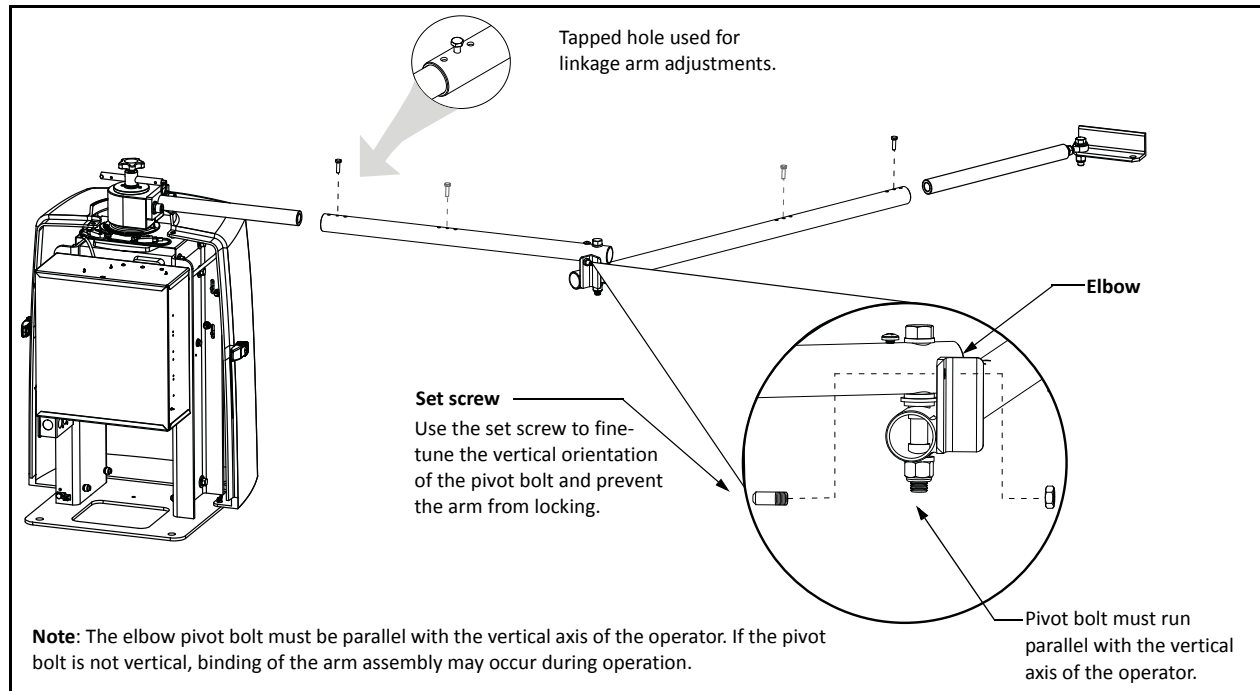
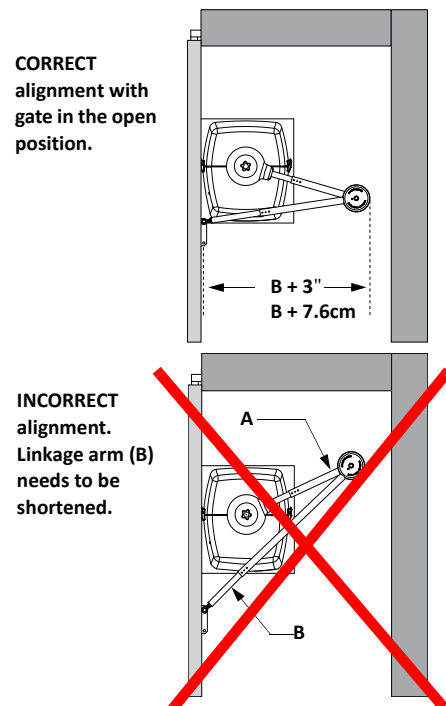

Figure 1-10.
Figure 1-11.
- Slide the linkage tubes on the appropriate stub arms and use the tapped holes for adjustment purposes. Tighten the hex-head bolts to hold the arms in place. Refer to Figure 1-10.
3. To verify appropriate arm length, manually push the gate to the full open and close positions. Maximum security is obtained when the elbow on the linkage arms is slightly bent with the gate closed and at an approximate 90° angle with the gate in the open position. See Figure 1-11. Refer to NOTE on page 1-11.
- Make sure the longer arm (B) does not collide with the top cap cover.
- See Figure 1-10 and make adjustments to arm lengths by: